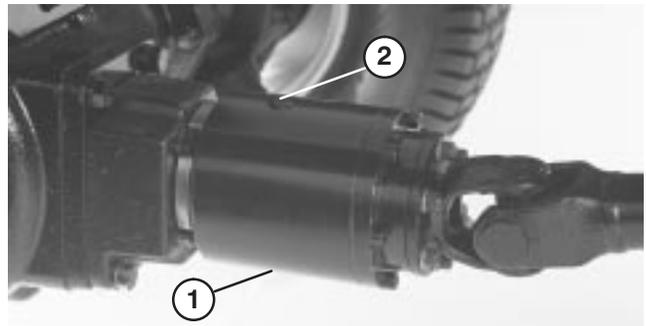

Figure 21
2. Rotate clutch (Fig. 21) so check plug (shown in 12 O'clock position) is positioned at 4 O'clock.